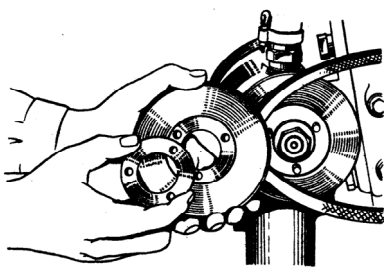

Fig. 29. Removal of Shims
- unscrew the nuts fastening the pulley side part by turning the pulley. Remove one or two of shims (Fig. 29). Fit the shims on the outer side of the pulley side part and consecutively tighten up the nuts turning the pulley through after tightening each nut.